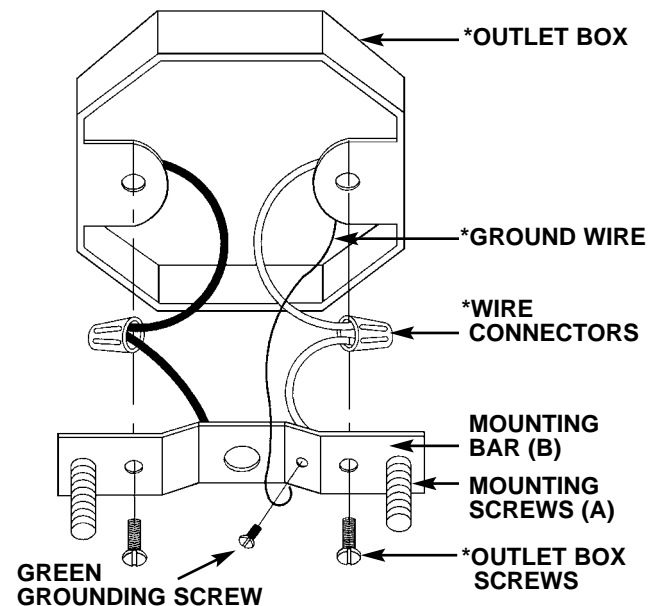

FIGURE 2
Thread fixture mounting screws (A) into threaded holes of mounting bar (B). (SEE FIG. 2)